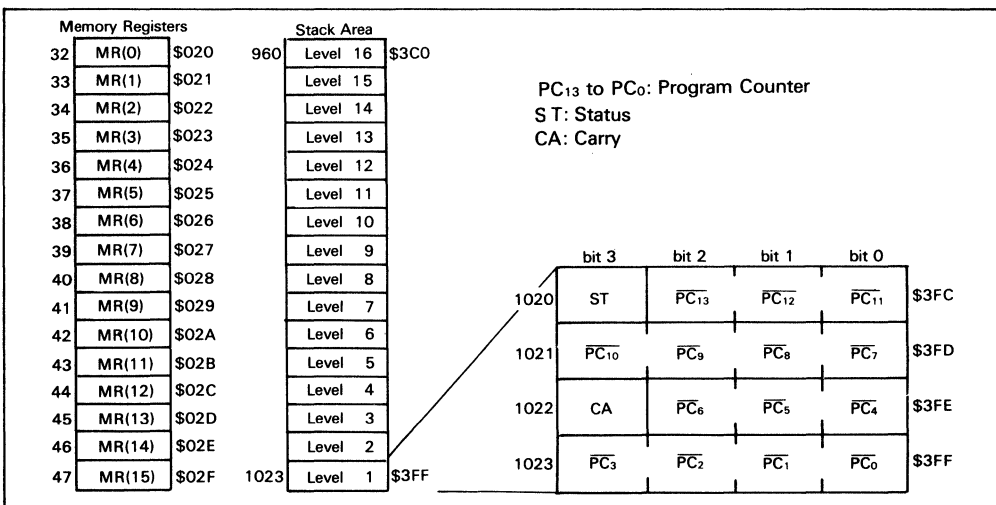

Figure 4. Configuration of Memory Register, Stack Area and Stack Position
Data Area (\$020 to \$3BF): 16 digits, \$020 through \$02F, in the data area are called memory registers (MR) and are accessible by LAMR and XMRA instructions (figure 4).
broutine calls (CAL-instruction, CALL-instruction) and interrupts are serviced. This area can be used as a 16 nesting level stack in which one level requires 4 digits. Figure 4 shows the save condition. The program counter is restored by RTN and RTNI instructions. Status and carry are restored only by the RTNI instruction. This area, when not used for a stack, is available as a data area.